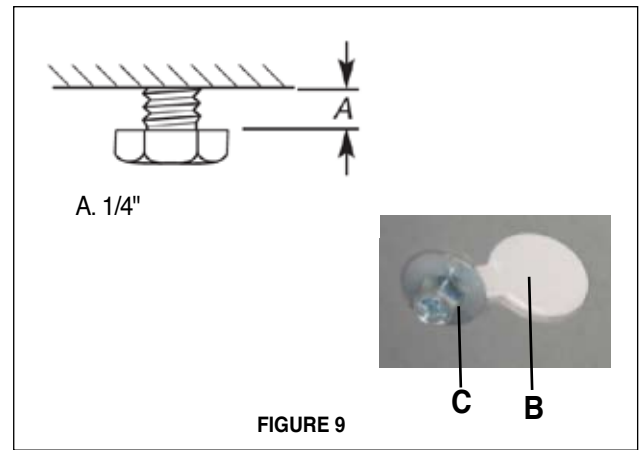

FIGURE 9
8. Install in previously drilled pilot holes in the ceiling the 4 bolts, washers and nuts OR the wood screws from the parts bag depending on your ceiling type (PAGE 4). Leave screw heads about 1/4" away from ceiling joists (A IN FIGURE 9).
12. Position the chimney support so that the large end of the keyhole slots are over the ceiling attachment bolts (B IN FIGURE 9). Then push the chimney support so that the bolts are in the neck of the slots. (C IN FIGURE 9) Tighten bolts securely.